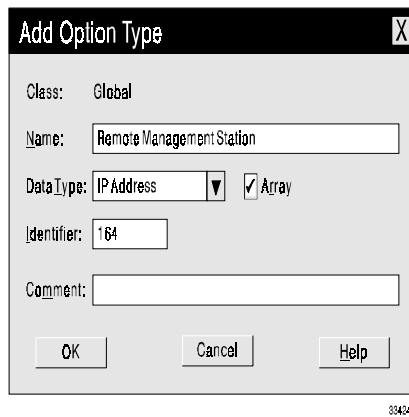

Figure 7. Add Option Type Screen
- b. Select New (Figure 7 displays).